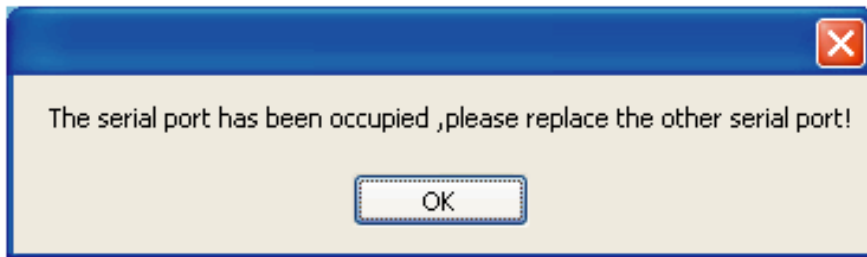

Fig.4-6
8) In case the selected serial port is unavailable, the window as Fig.4-6 will be display.